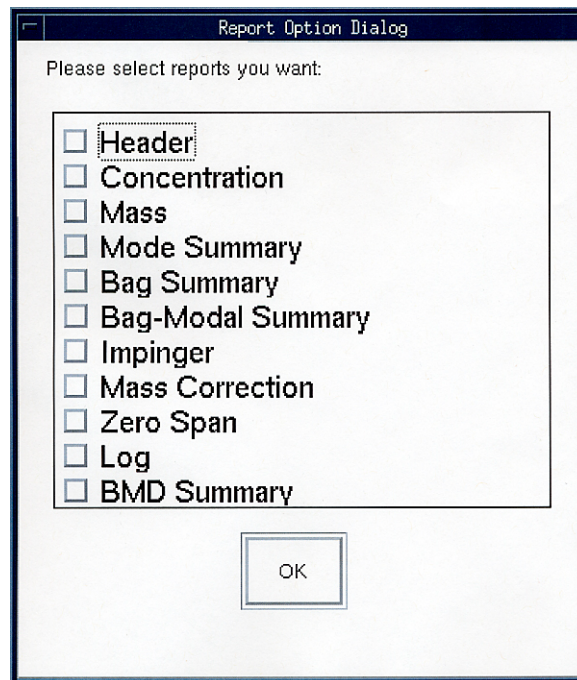

Figure 30
- 332 In the "Report Option Dialog" under "Please select reports you want," click in the box next to "Zero Span." See Figure 30. A check mark will appear in the box.